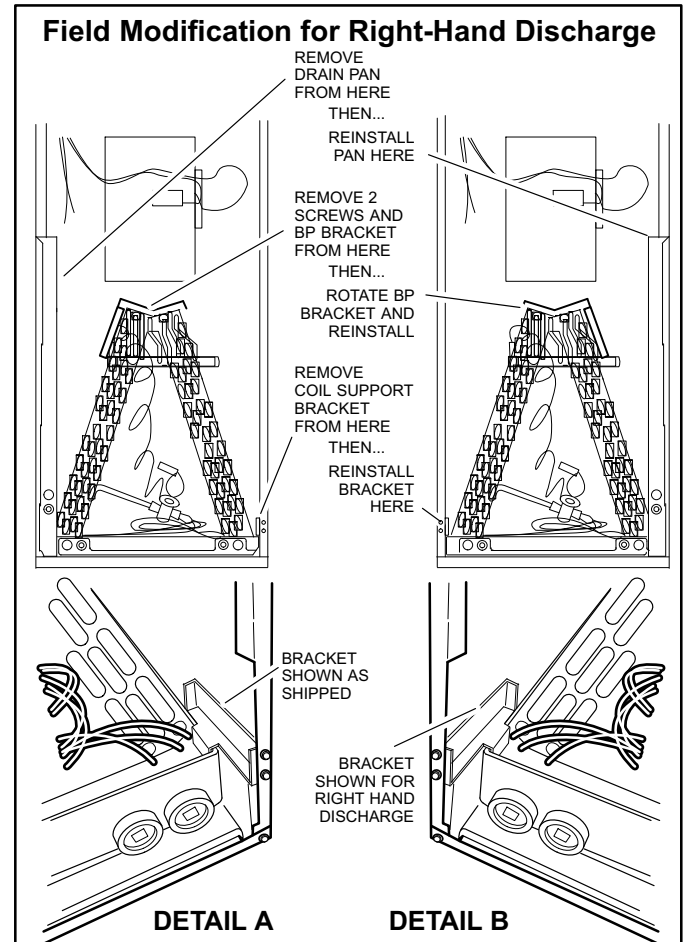

FIGURE 10
2. Remove the coil support bracket (see detail A, figure 10).
5. Remove two screws and blowoff prevention bracket (BP BRACKET in figure 10). Rotate the bracket 180° and reinstall using the same screws.
8. Install the coil support bracket on the opposite side of the air handler (detail B, figure 10)..